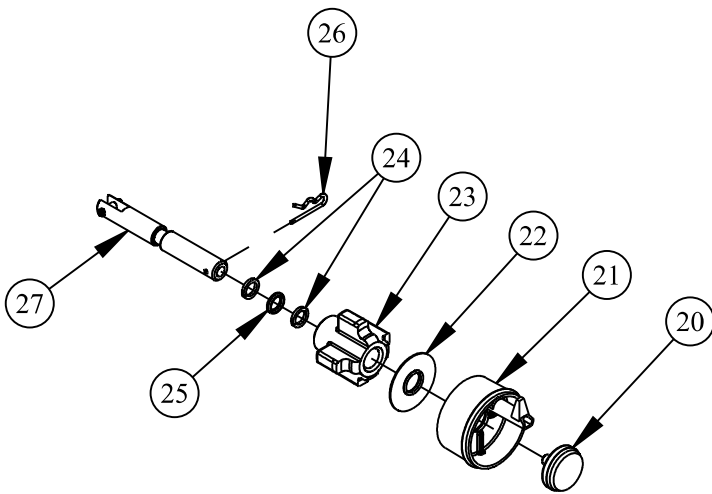

FIGURE 4: VALVE STEM ASSEMBLY
3. Remove the hitch pin (26) from the valve stem assembly (4) and disassemble as shown in Figure 4.
4. Install the new o-ring (25) then place one new back-up ring (24) on each side of the o-ring.
5. Apply o-ring lubricant to the o-rings and back-up rings and slide the valve stem guide (23) over the o-rings and back-up rings.
6. Reassemble the valve stem assembly as shown in Figure 4 with a new stabilizer gasket (22).